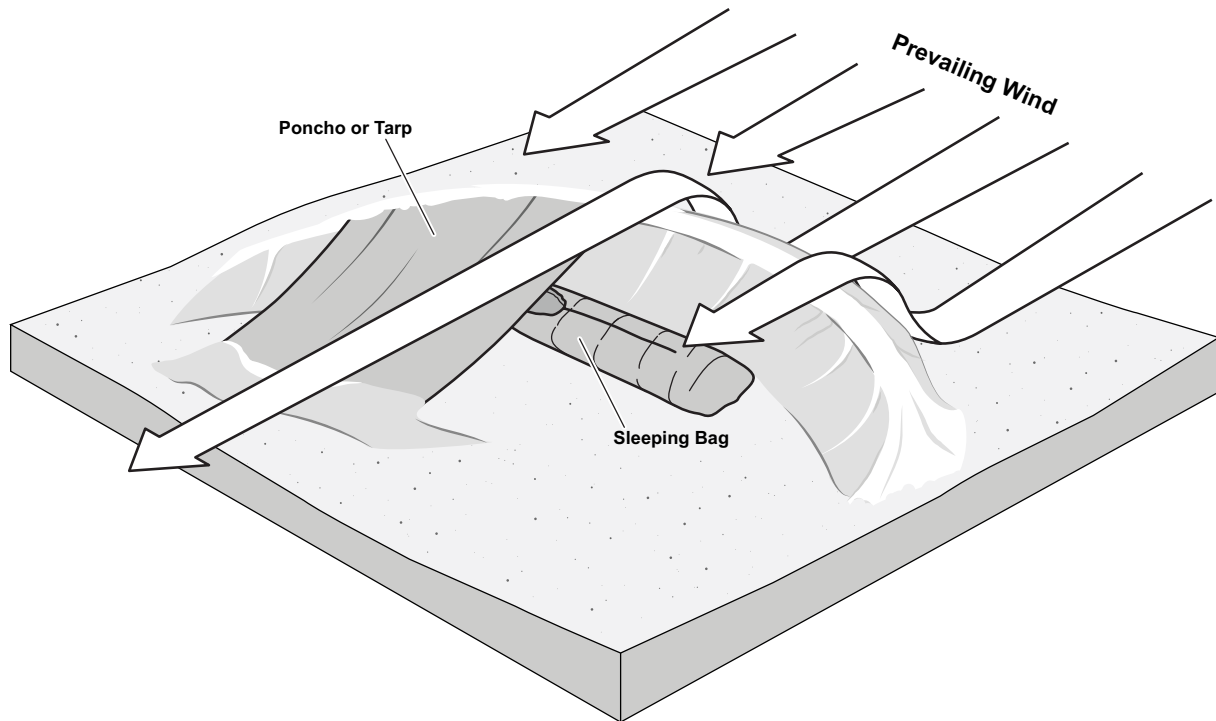

Figure 8-1. Snow Wall.
- Construct a wall of compacted snow in the shape of a horseshoe to shield Marines from the wind. The wall should be at least 3 feet high and as long as the body. Figure 8-1 depicts a snow wall.